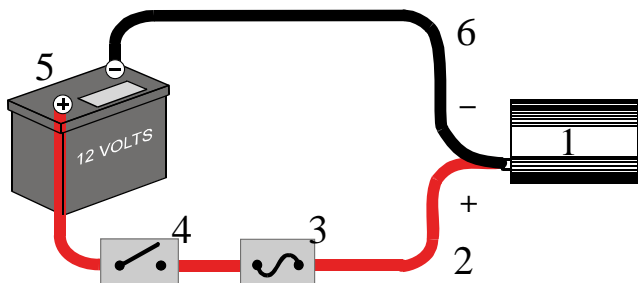

Figure 6 Hardwiring the XPower 500 to a 12 Volt Battery
Refer to Figure 5 and Figure 6 when you connect the inverter.
A hardwired installation is illustrated in Figure 6.
3. Install an 80 amp automotive fuse and a switch rated at 80 amps in the positive (red) wire, close to the end that will attach to the battery. See Figure 6. The switch lets you disconnect the DC power if you need to replace the in-line fuse. Solder and insulate the connections as detailed in Step 2 above.
- If you need to replace the in-line fuse (Figure 6), turn off the in-line switch to disconnect the DC power.